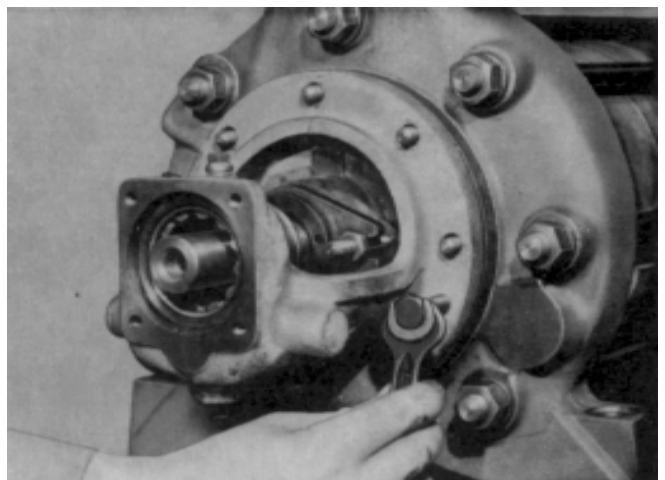

Fig. 31 Forcing off the bearing housing.
7. Unscrew and remove hex. nuts (920.2) from studs (902.1) in the suction casing (106) in order to dismantle the bearing housing and stuffing box housing. (see Fig. 31 and 32)